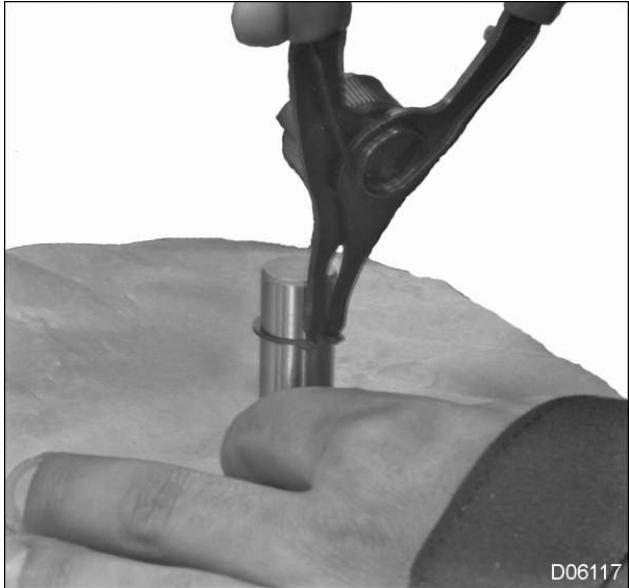

Figure 21 Install Retaining Ring on Idler Shaft
23. Place a retaining ring (Figure 21) on the end of the shaft that does not have the threaded hole.